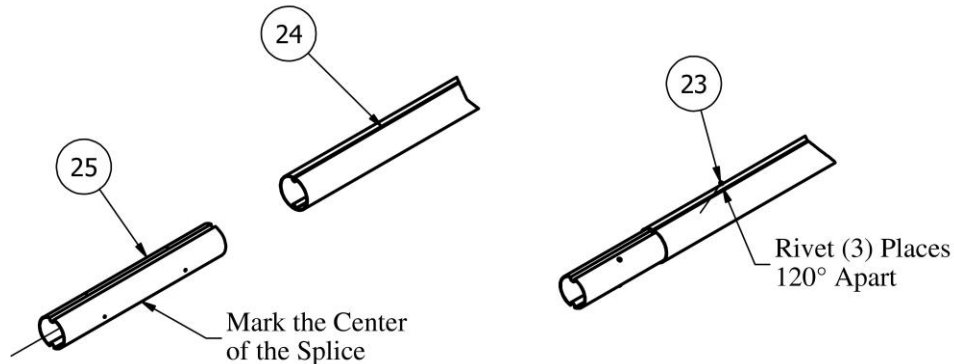

Figure 1
2. Install the splices at each joint of the drive tube. See figure 1.
Refer to Figure 1 for the following step